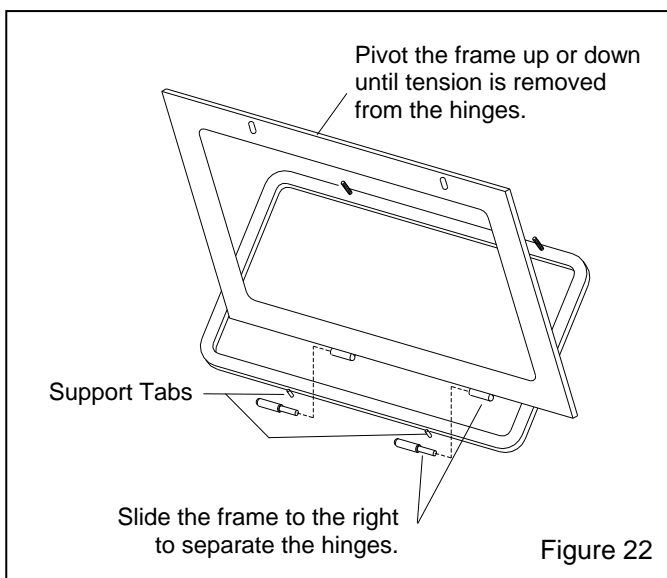

Figure 22
7.6 Window Frame Removal, Figure 22
7.6.4 Slide the frame to the right, to remove. The hinges separate as shown in Figure 22.